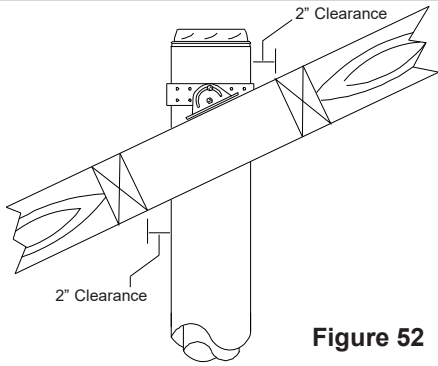

Figure 52
6. The URSA is mounted directly on the roof sheathing with its Support Plate resting over rafters or a framed opening to form a solid base. Frame a rectangular roof opening to ensure a good distribution of weight load. Be sure to allow for a minimum of 2" airspace clearance to combustibles as shown in Figure 52. Refer to Table 1 for the required framing dimensions and Table 2 for the maximum supporting capacity.